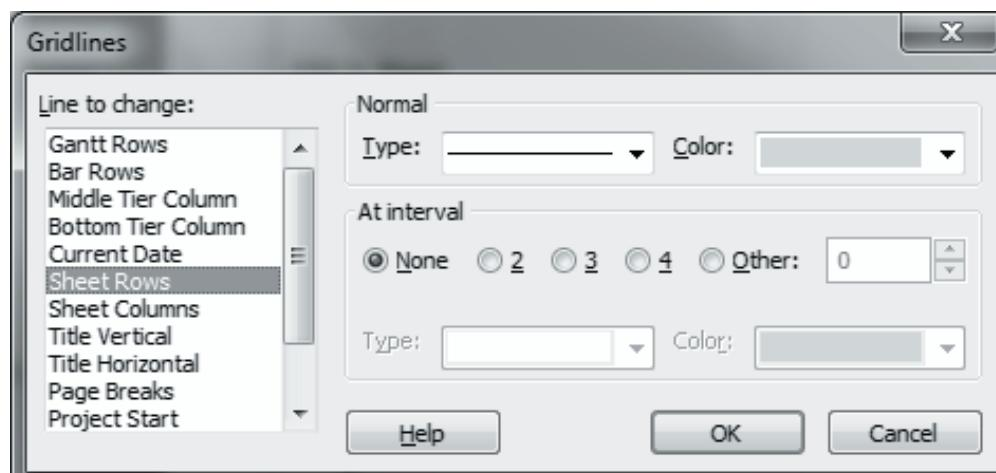

Figure 14.6: Gridlines Dialog Box
1. In the **Format** group on the **Format** tab for **Gantt Chart Tools**, click the **Gridlines** button to display the **Gridlines** dialog box. This dialog box enables to specify various options for gridlines as shown in figure 14.6.